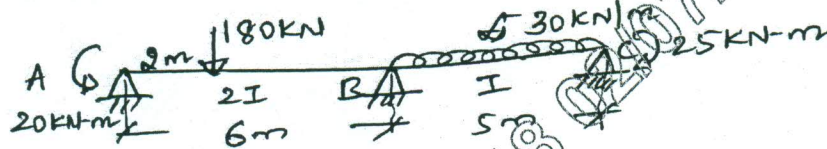

Fig.Q.3
- 3 Analyze the continuous beam shown in Fig.Q.3 by force method. Draw BMD take moment at 'B' as redundant. (16 Marks)